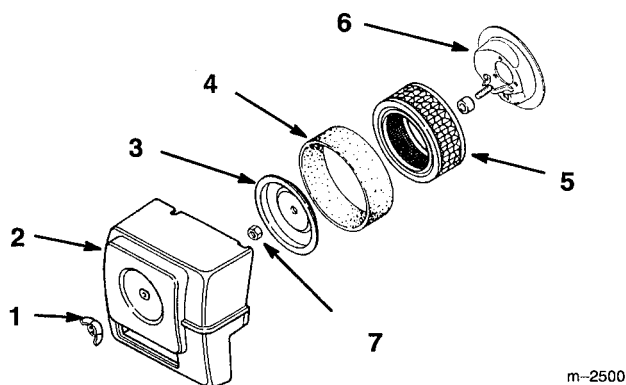

Figure 14
3. Clean around the air cleaner to prevent dirt from getting into the engine and causing damage. Remove the wing nut and air cleaner cover (Fig. 14).
4. Unscrew the nut and remove the cover, foam element and paper element (Fig. 14).
5. Carefully slide the foam element off the paper element (Fig. 14).
- 1. Carefully slide the foam element onto the paper air cleaner element (Fig. 14).
- 2. Place the air cleaner assembly into air cleaner base. Slide cover onto rod and secure with nut (Fig. 14).
- 3. Install the air cleaner cover and secure with wing nut (Fig. 14).